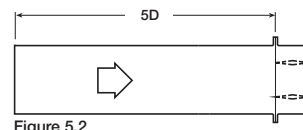

Figure 5.2
Figure 5.2: A ducted damper exhausting air into an open area. This configuration has a lower pressure drop than 5.3 because entrance losses are minimized by a straight duct run upstream of the damper.
- Ducted Inlet – Free Outlet (AMCA 500-D, Figure 5.2)
the system designer by assuring him of having complete, verifiable, and accurate pressure loss data for the basis of his system design. In addition, specifying dampers with AMCA Licensed performance data for AMCA 500-D (test figures 5.2, 5.3 and 5.5) ensures the